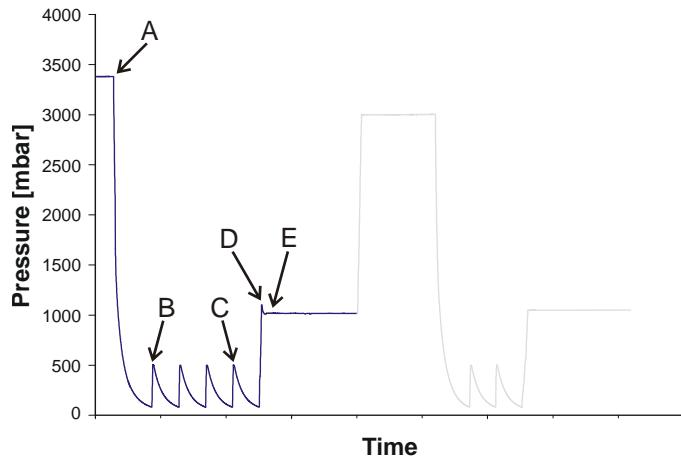

Figure 78: Flushing routine (cycles prior to optics exchange)
The routine shown in Figure 78 starts. The timing of the routine as well as the exact pressure values are subject to change depending on the version and operating conditions of the laser device.
- FLUSHING 1 OF 5 - KEEP COVER CLOSED (see Figure 78, A):